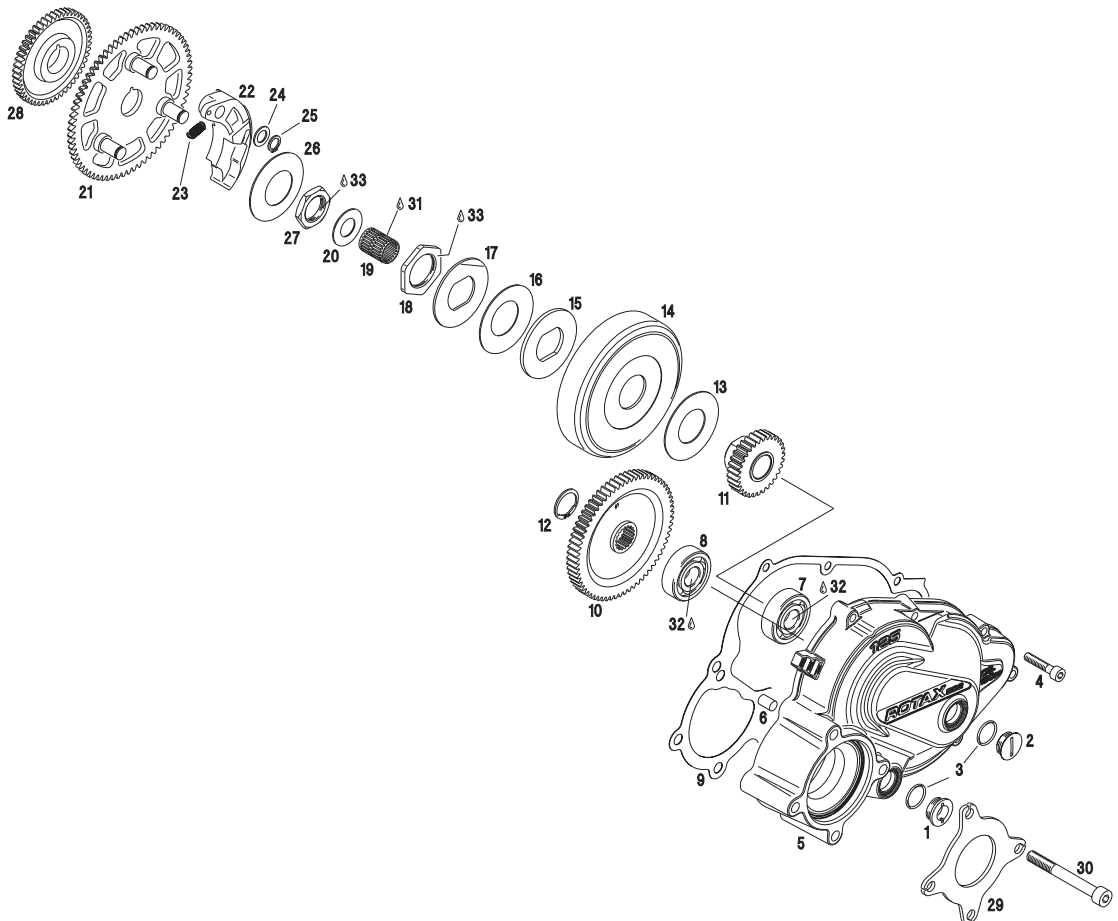

Fig. 18
➔ Remove the gear cover by unscrewing 6 Allen screws M6x30 (pos. 4) and the 4 Allen screws M8x70 (pos. 30). (Fig. 18)